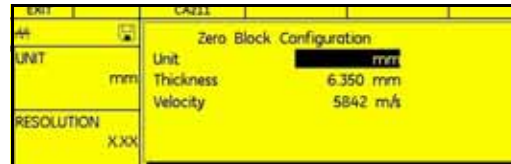

Figure 11: Zero Block Configuration Window
2. Use the joystick () to select the ZERO BLOCK function, then move the joystick () to open the configuration window (Figure 11 below).